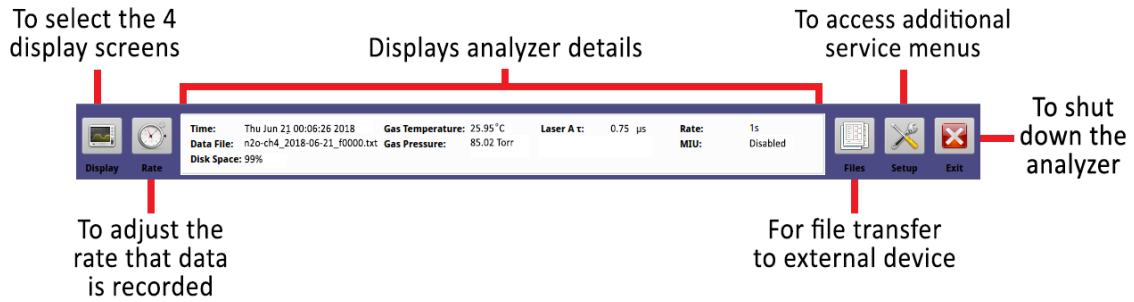
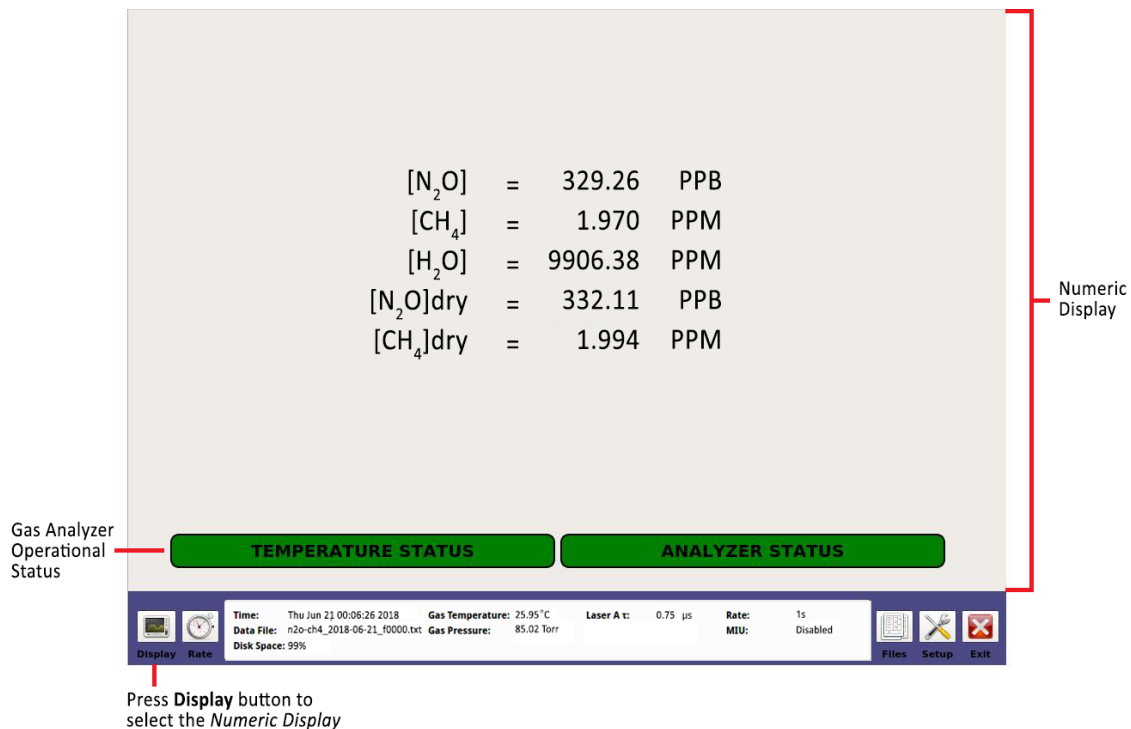
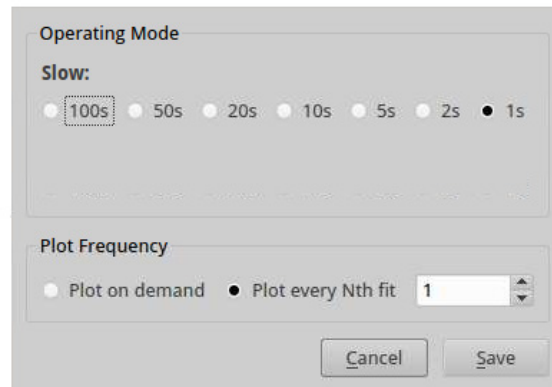

Figure 16: User Interface Control Bar
Figure 17: Numeric Display
Figure 22: Rate Control Screen
- b. If you don't make a selection within 120-seconds, the analyzer automatically defaults to the *Main Panel Numeric* display. (Figure 17)
This panel contains the *User Interface Control Bar* (Figure 16) and *Numeric Display* (Figure 17)
- **Numeric Display** – Default display. Displays the numeric readout of the last measurement. (Figure 17)
Rate – Adjusts the rate at which data is written to the log file. (Figure 22)
Figure 17 shows an example of the *Numeric Display* screen for the GLA151-N2OM1. It displays the numeric readout of the last measurements of gas at a specific concentration. Concentrations vary depending on the type of analyzer.
When the **Rate** button (clock icon) on the *User Interface Control Bar* (Figure 16) is selected, a pop-up box appears to allow rate control adjustments to the operating mode and plot frequency. (Figure 22)
The *Data Rate Control Adjustment* panel appears. (Figure 22)
The *Plot Frequency* radio buttons allow you to select between manually or automatically plotting the data. (Figure 22)